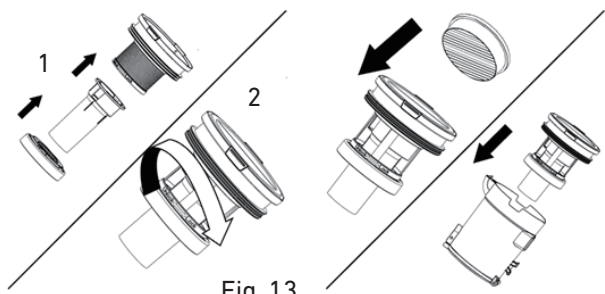
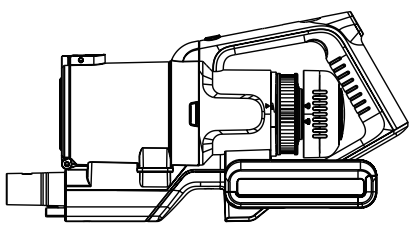

Fig. 13
Fig. 14
6. To clean or replace the post-motor filter, turn the cover anticlockwise and lift off the cover. (Fig. 13) Remove the filter (Fig. 14) and wash and dry it in accordance with step 4.